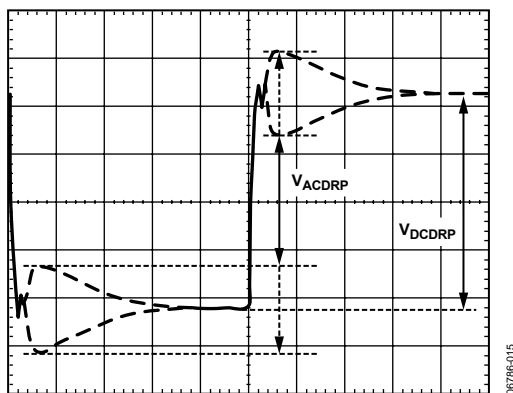

Figure 17. AC Load Line Waveform
- Measure the output waveform (use dc offset on scope to see the waveform). Try to use a vertical scale of 100 mV/div or finer. This waveform should look similar to Figure 17.
- Use the horizontal cursors to measure  $V_{ACDRP}$  and  $V_{DCDRP}$ , as shown in Figure 17. Do not measure the undershoot or overshoot that happens immediately after this step.